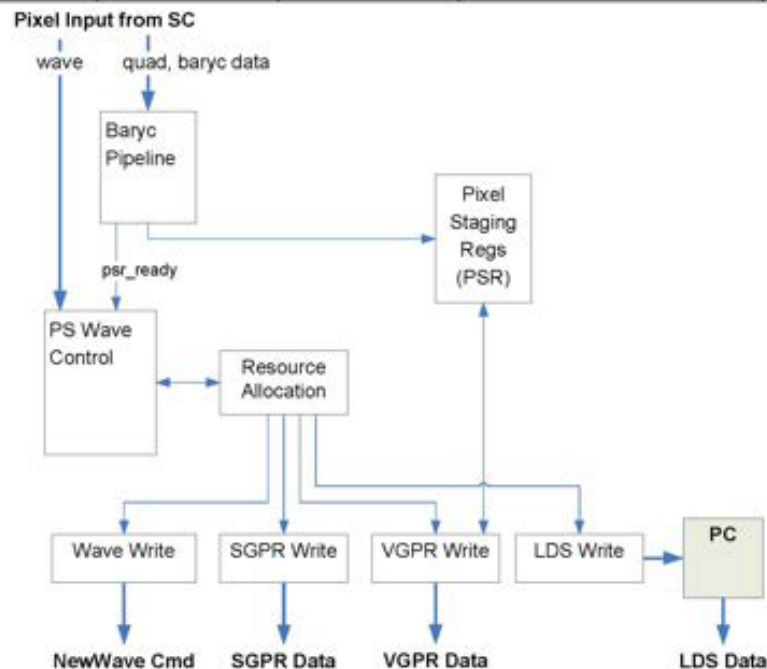

Figure 12 – Pixel Input Data
2.4 Pixel Shader (PS)
Figure 12 shows the flow of pixel data through the SPI. The SPI gets input data for pixels from the Scan Converter (SC). Wave control information tells the SPI which quads are hit, parameter cache sync and deallocation tokens, and if the transfer is an event. The SC also delivers quad and per primitive barycentric information to the Baryc interpolation math. As quads are being received from the SC, the Pixel Input Controller will buffer the control information until a full wavefront is received. The quad information is also flowing down the barycentric math pipe where the SPI calculates the per pixel IJ and W terms and can also store off screen X/Y, primitive facedness, and other ancillary terms. That data gets delivered to the Pixel Staging Registers for storage until the wavefront is ready to launch. Once a full wavefront is accumulated, the SPI requests to allocate resources and, once granted, the wavefront is sent to the various Write Controllers which coordinate the loading of PS data to the SH.